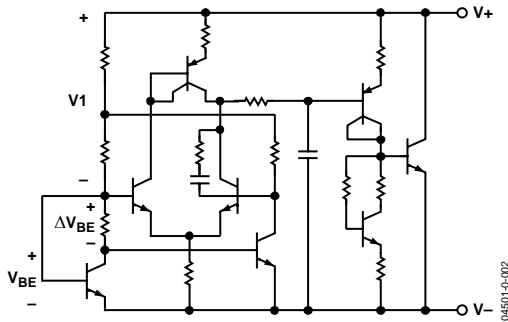

Figure 18. Circuit Schematic
The ADR520/ADR525/ADR530/ADR540/ADR550 use the band gap concept to produce a stable, low temperature coefficient voltage reference suitable for high accuracy data acquisition components and systems. The devices use the physical nature of a silicon transistor base-emitter voltage in the forward-biased operating region. All such transistors have approximately a  $-2 \text{ mV}/^\circ\text{C}$  temperature coefficient (TC), making them unsuitable for direct use as a low temperature coefficient reference. Extrapolation of the temperature characteristic of any one of these devices to absolute zero (with the collector current proportional to the absolute temperature), however, reveals that its  $V_{BE}$  approaches approximately the silicon band gap voltage. Thus, if a voltage develops with an opposing temperature coefficient to sum the  $V_{BE}$ , a zero temperature coefficient reference results. The ADR5xx circuit shown in Figure 18 provides such a compensating voltage ( $V_1$ ) by driving two transistors at different current densities and amplifying the resultant  $V_{BE}$  difference ( $\Delta V_{BE}$ , which has a positive temperature coefficient). The sum of  $V_{BE}$  and  $V_1$  provides a stable voltage reference over temperature.